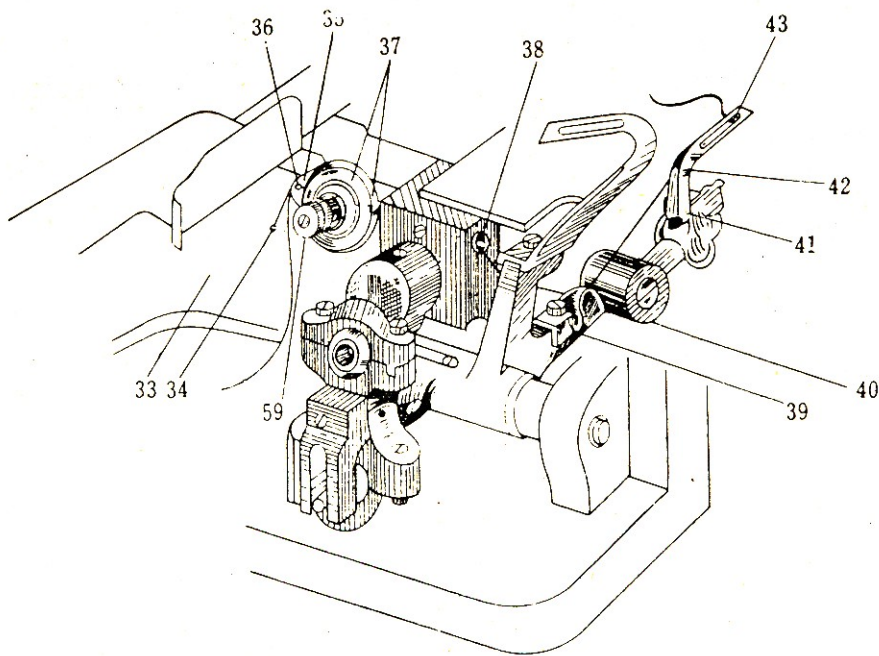

图 8
用随机供应的穿线钳夹住线头、套进小弯针线钩39(参阅图 8)的穿线孔40中, 仍将线头夹住。
Grip the end of the thread with the tweezers supplied with the machine and pass it into the thread hole(40) of the thread hook(39) for the small looper (see Fig.8).